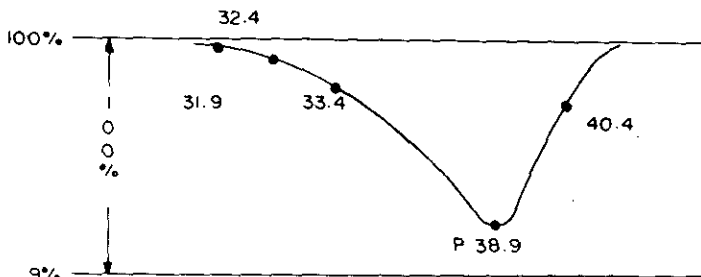

Figure 2
- Adjust L102 ((Detection Special Quality Adjustment Coil) on the main board in order to minimize the Picture Carrier Mark as shown in figure 2 (For Mark Frequency of Each System, refer to the below note (\*)).